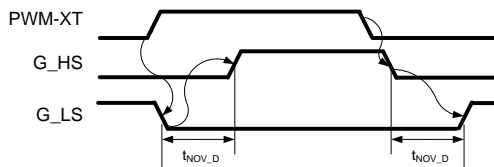

Figure 18: Local Mode operation
- Local Mode: PWM-XB and PWM-XT are generated from one input signal (PWM-XT) and proper non overlapping timing is managed locally on each phase of CXT-PLA3SA12450 gate driver board (cfr Figure 18)